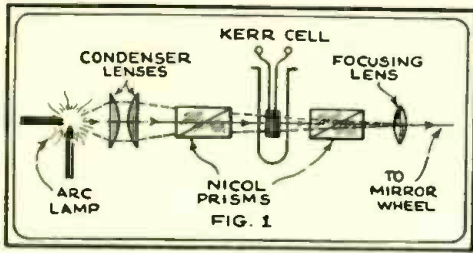

Fig. 1A—The arrangement of the Kerr cell (light valve) for modulating a powerful source of light in a television receiver.
**A**LTHOUGH we were operating a standard television set on nights when good signals could be obtained (at Kansas City, Mo.), the author was not satisfied with the opportunities presented for experiment, and decided to set up an entire television unit consisting of a sending and receiving set, with all of the incident amplifiers, photo-cells, etc. The scanning-disc system apparently fulfilled all requirements at the sending end, and was considered as a 32-hole affair (described in a previous issue). The disc system did not, however, appear to be the best adaptable at the receiver. In the first place, there was no lack of light at the transmitter, where a 1000-watt projection lantern was used. At the receiver, however, the 2-watt neon lamp must be used in the most efficient way, and a scanning disc with holes certainly is far from efficient. After studying over the possibilities, the standard method was abandoned, and the German mirror-wheel system chosen. The next problem to be encountered was the light-source; it was finally decided to use an arc light and modulate this beam with a Kerr cell. The system is shown in Fig. 1A.